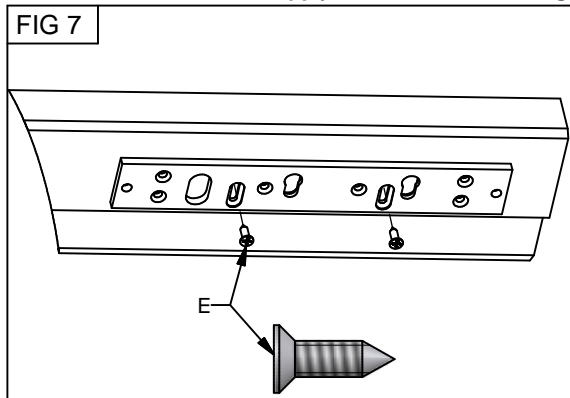

FIG 7
9. Place the Mounting plate on to the frame making sure the 10mm cable hole is visible through the oval hole of the plate. Fix using two No 8 15mm Csk screws (E) through the slotted holes into pilot holes drilled previously (see Fig.7).